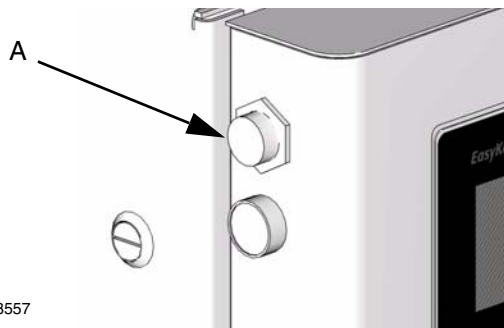

**FIG. 27** Network Selection
- **Local Network Connection** (most common). Patch cable from the local network plugs into the Web Interface connection. See FIG. 27 and page 58.
- **Direct Connection** to the unit crossover cable from the PC plugs into the Web Interface connection. See FIG. 27 and page 61.